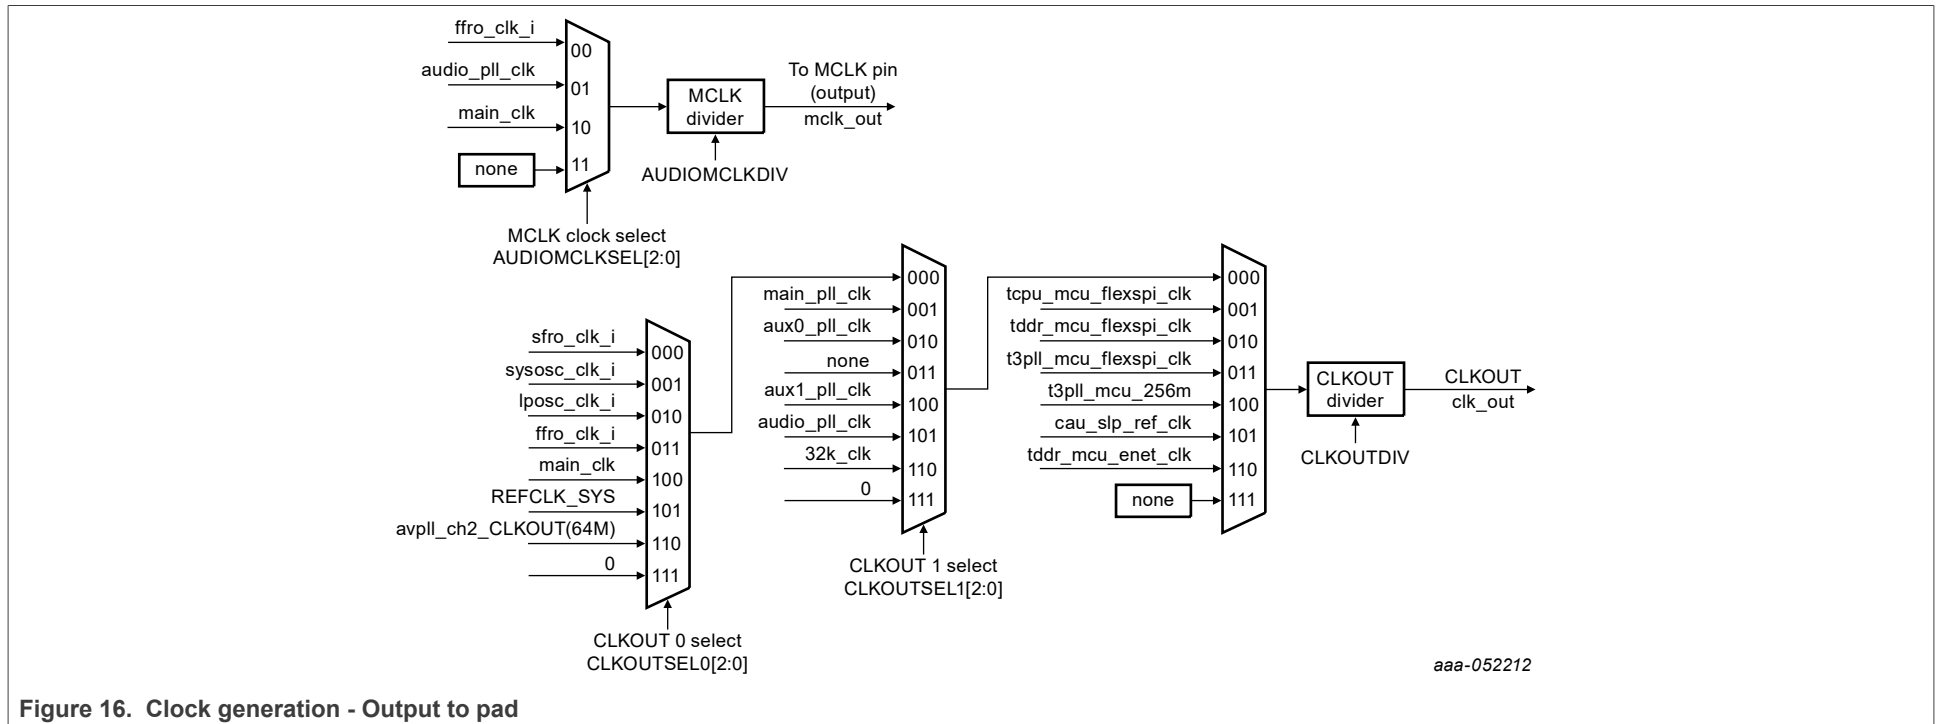

Figure 16. Clock generation - Output to pad
- Figure 16 "Clock generation - Output to pad"